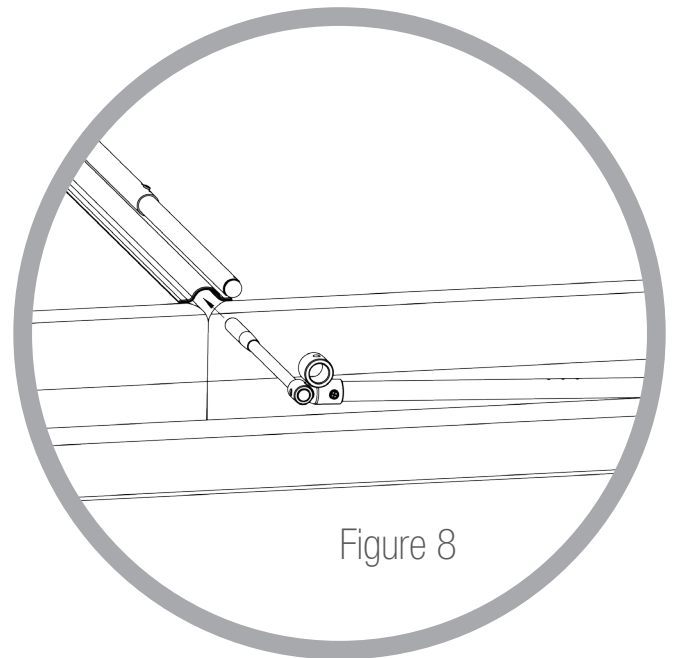

Figure 8
- Slip the Fingers (cvEE) under the seam in the middle of the spa cover facing the extension arm (cvDD) pointing towards the Pivot Arm (cvCC) The “knuckle” of the Plastic Support (cvPS) should be facing Up. See fig. 8